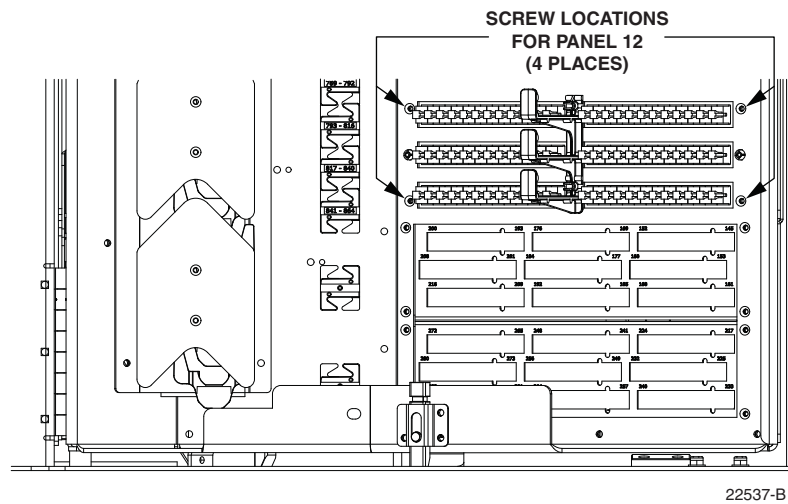

Figure 20. Secure Connector Panel to Front Side of Swing Frame
14. Working from the front of the swing frame, use the four screws provided to secure the front of the connector panel to the swing frame as shown in Figure 20.